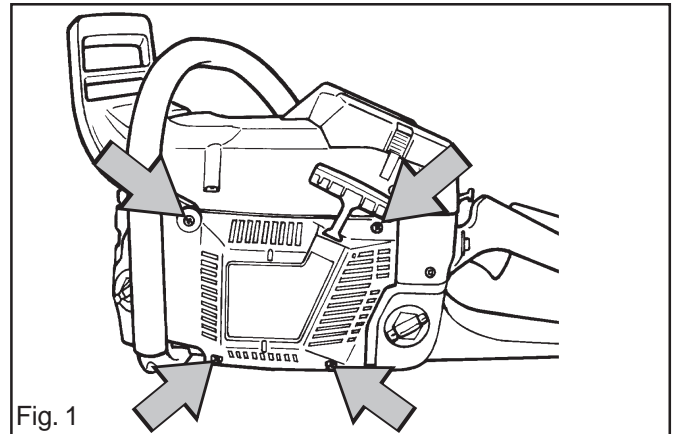
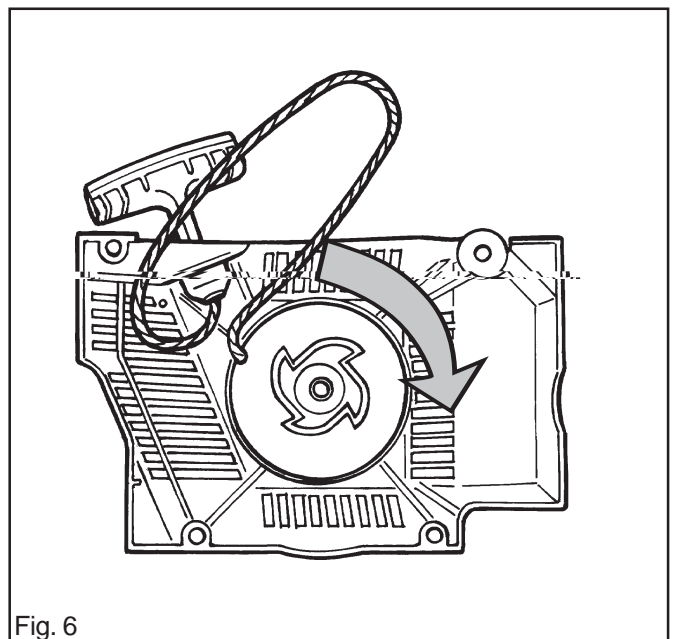

Fig. 1
Fig. 6
1. Remove the four bolts holding the starter to the crankcase and remove the starter. See fig. 1.
7. Wind the cord onto the starter pulley and rotate the pulley clockwise until the cord is correctly tensioned. See below and fig. 6.
8. Fit the starter on the crankcase. Tighten the bolts to 4 Nm. See fig. 1.
2. Release the blue lead (A) (which connects to the stop button) from the ignition module (B). See fig. 1.
3. Remove the ignition cable (C) from the spark plug and release both cables from the cable guide (D), and lift off the cable guide. See fig. 1.
4. Remove the two M5 bolts and lift off the ignition module (B). See fig. 1.
5. Remove the two pawls (E) for the starter. See fig. 1 and fig. 6.
3. Fit the two pawls on the flywheel. See fig. 6.